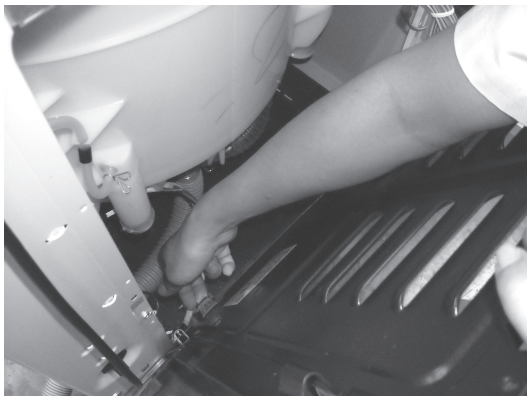

Fig. 4
- Use the finger for pull end of Hook (Fig. 5) loose from the Base Unit (Fig. 4)